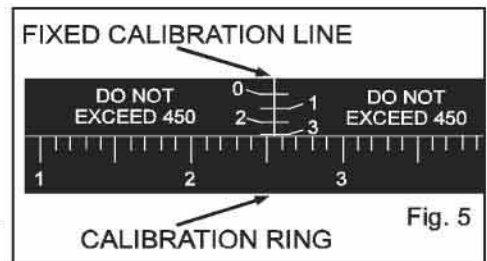

Fig. 5
**12. PUMP STROKE ADJUSTMENT.** The knurled ADJUSTMENT NUT on the pump head controls stroke to stroke piston displacement. Turning it clockwise to zero stops displacement. Turning the ADJUSTMENT NUT counterclockwise four and one half turns from zero (450 on scale) (fig. 5) causes maximum pump reciprocation, e.g., 50 µl per stroke for the H-0 or 100 µl for the H-1 unit. Thus each 1-1/8 turn (112.5 on scale) of the ADJUSTMENT NUT represents 25 of maximum (12.5 µl for H-0 and 25 µl for H-1) and each graduation on the ring represents an adjustment of 1/450th of maximum (0.111 µl for H-0, 0.222 µl for H-1).